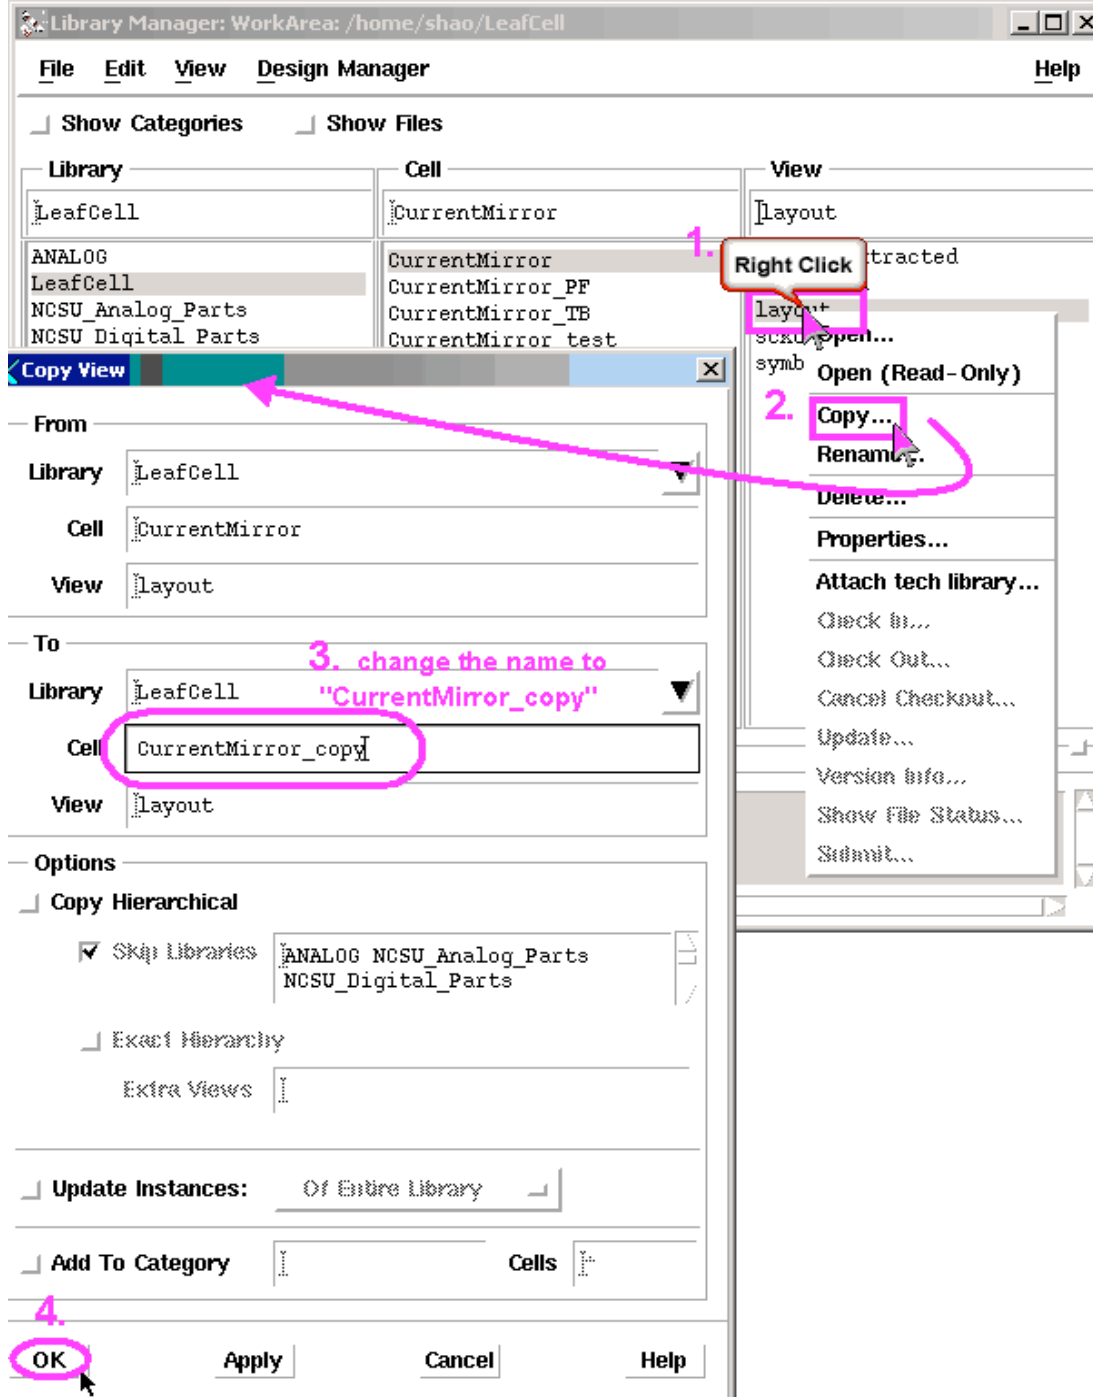

Figure 109: Make a secondary copy of layout view for CurrentMirror.
- For security reason, we make a secondary copy of the layout for the CurrentMirror (Figure 109).